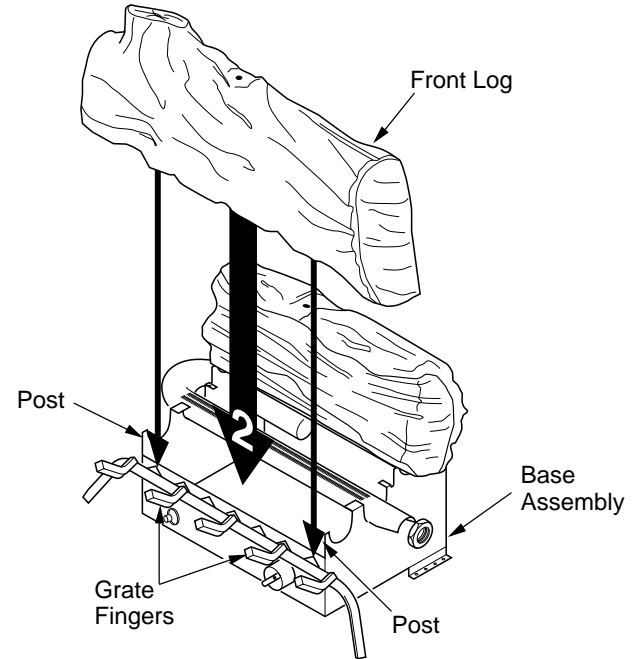

Figure 37 - Installing Front Log
2. Place front log onto grate on front of base assembly. The log will fit down between grate fingers and posts on front of base assembly (see Figure 37). This log may be turned to face either direction.